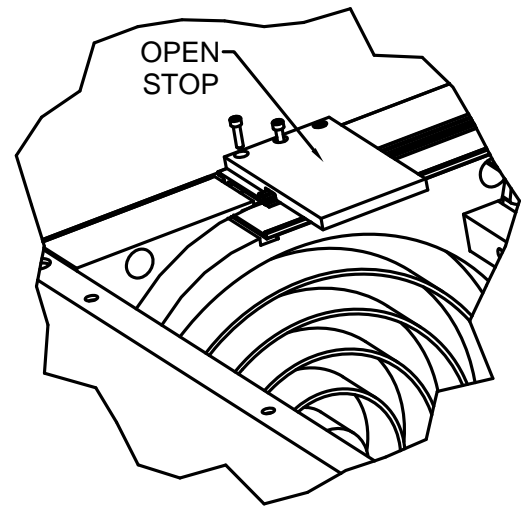

Figure 5 – Open Stop
- e) Install stop brackets with enclosed #8 socket head cap screws on spiral end of horizontal track. See Figure 5.
- c) Install Open Stop Brackets with #8 Socket Head Cap Screws on Spiral end of Horizontal Track (See Figure 5).